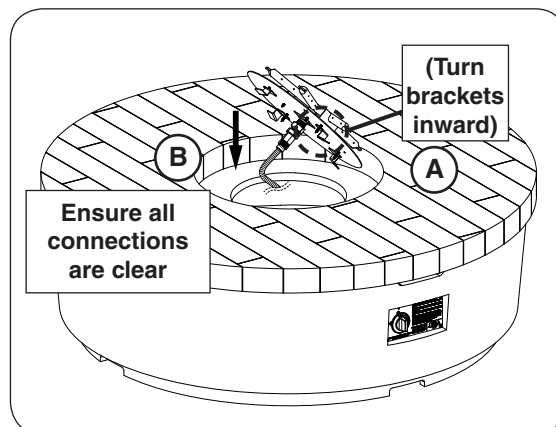

Fig. 30-2 Insert burner assembly
1. Ensure that the four burner brackets are turned inward, then insert the burner assembly (see Fig. 30-2, A-B).